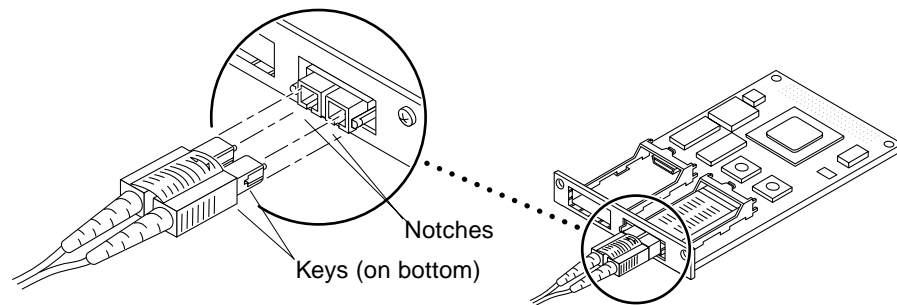

FIGURE 1-2 Connecting a Fiber Optic Cable to a GBIC
7. **Push the fiber optic cable connector into the GBIC until the connectors click** (FIGURE 1-2).
Caution – Fiber optic cables have keyed connectors; they can only be inserted into GBICs as shown in FIGURE 1-2.